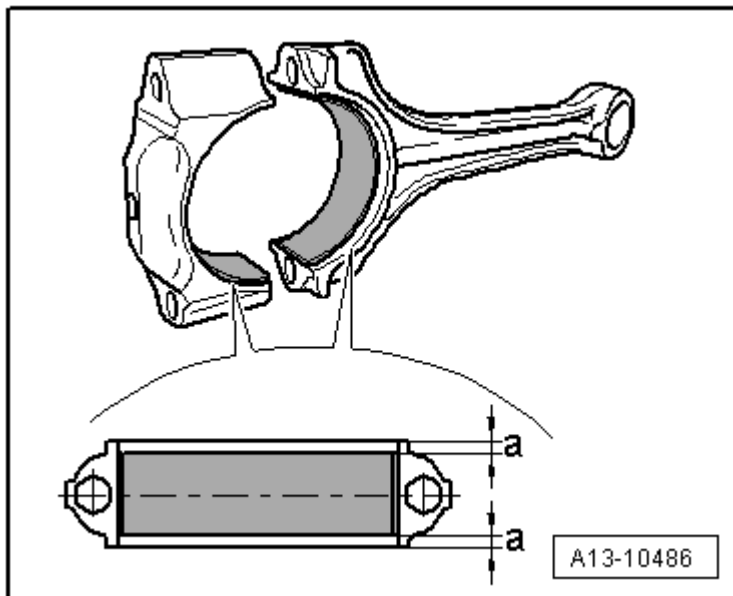

Fig. 15: Dimension -A- Must Be Same At Left And Right
- Installed position, refer to **Fig. 15**.